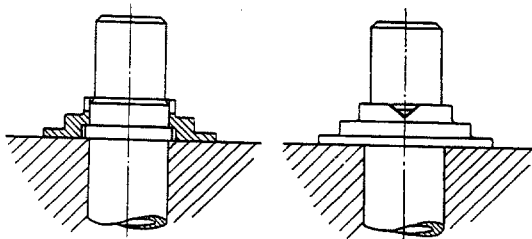

Fig. M 26b/6b
- 5b. Press a new rubber ring (7) into bell of valve spring retainer and move into correct position by means of a suitable punch fitting into the bore.
- 6b. Push spring supporting ring (3) over valve guide.
**Note:** If spring supporting ring projects beyond recessed part of valve guide, provide the ring at two opposite points with a notch (Fig. M 26b/6b).